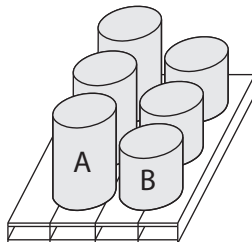

Figure 2
- Store resin and hardener according to the recommended method Figure 2.